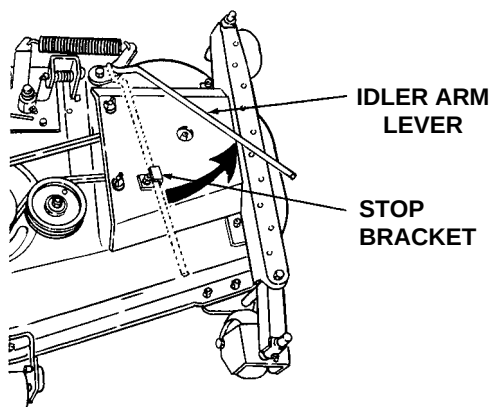

Figure 52
7. Lower the mower deck by moving the implement lift handle to its lowest setting. Disengage the deck idler arm lever from its stop bracket and release the spring tension by rotating the lever out and rearward (See Figure 52).